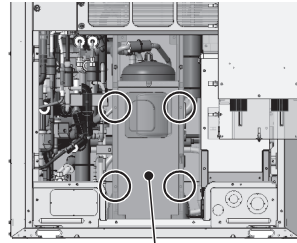

Figure 2
- (2) Remove the front compressor cover by unscrewing the four screws. (See Figure 2.)